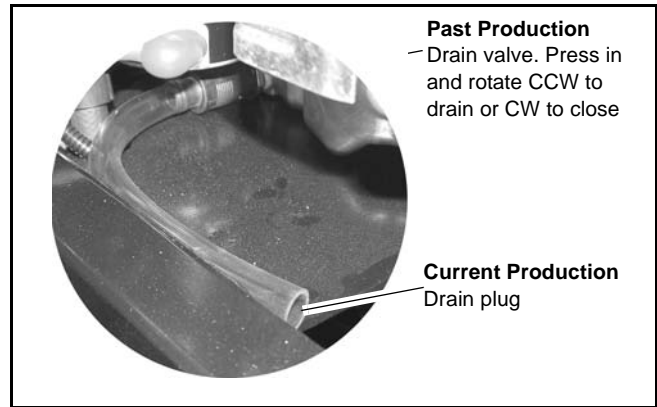

Figure 14
7. Open the drain valve or drain plug (see Figure 14).